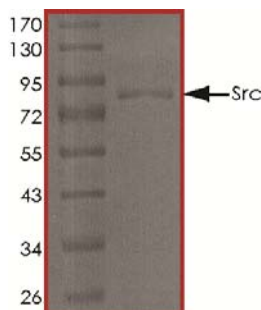

Figure 1: The approximate molecular weight is 83 kDa and the purity is > 95%.
- Molecular Mass** ♦ The approximate molecular weight is 83 kDa (see Figure 1 below).
- Purity** ♦ The purity was determined to be > 95% by densitometry (see Figure 1 below).